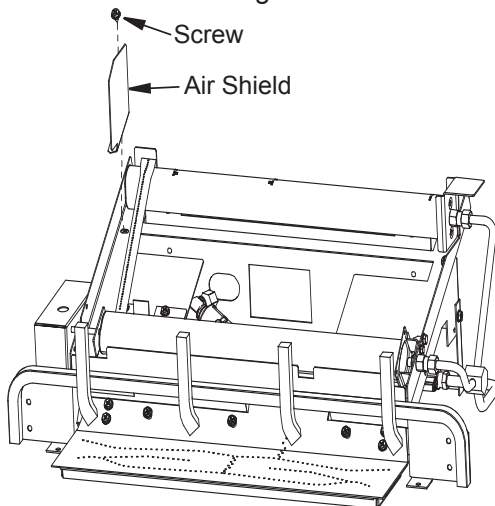

Figure 28 - Removing Air Shield
1. Before placing any logs on the chassis you will need to remove the Air Shield located on the left side near the rear burner as shown in **Figure 28**. The Air Shield is held in place with one screw, remove the Air Shield and place the screw back into the hole in the chassis. Place the Air Shield with your owner's manual and keep.